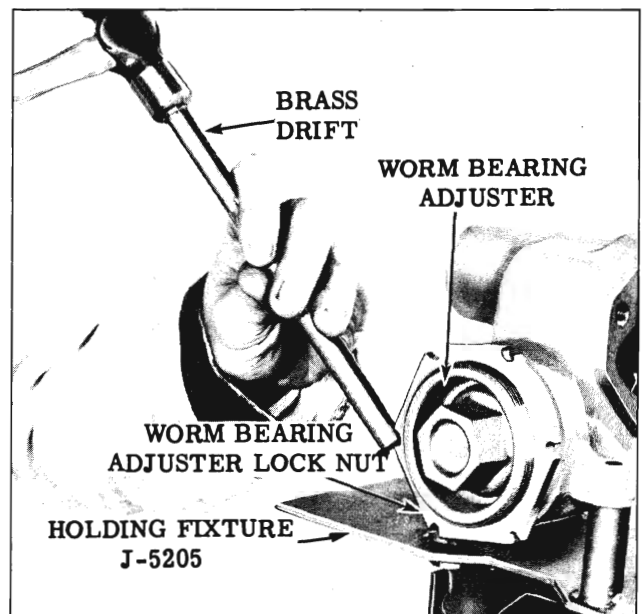

Fig. 4-6 Loosening Lock Nut
4. The torque required should be between 5 and 9 inch pounds. If it is not, it will be necessary to loosen the worm bearing adjuster lock nut with a brass drift (Fig. 4-6) and turn the worm bearing adjuster the required amount to bring the torque within limits.